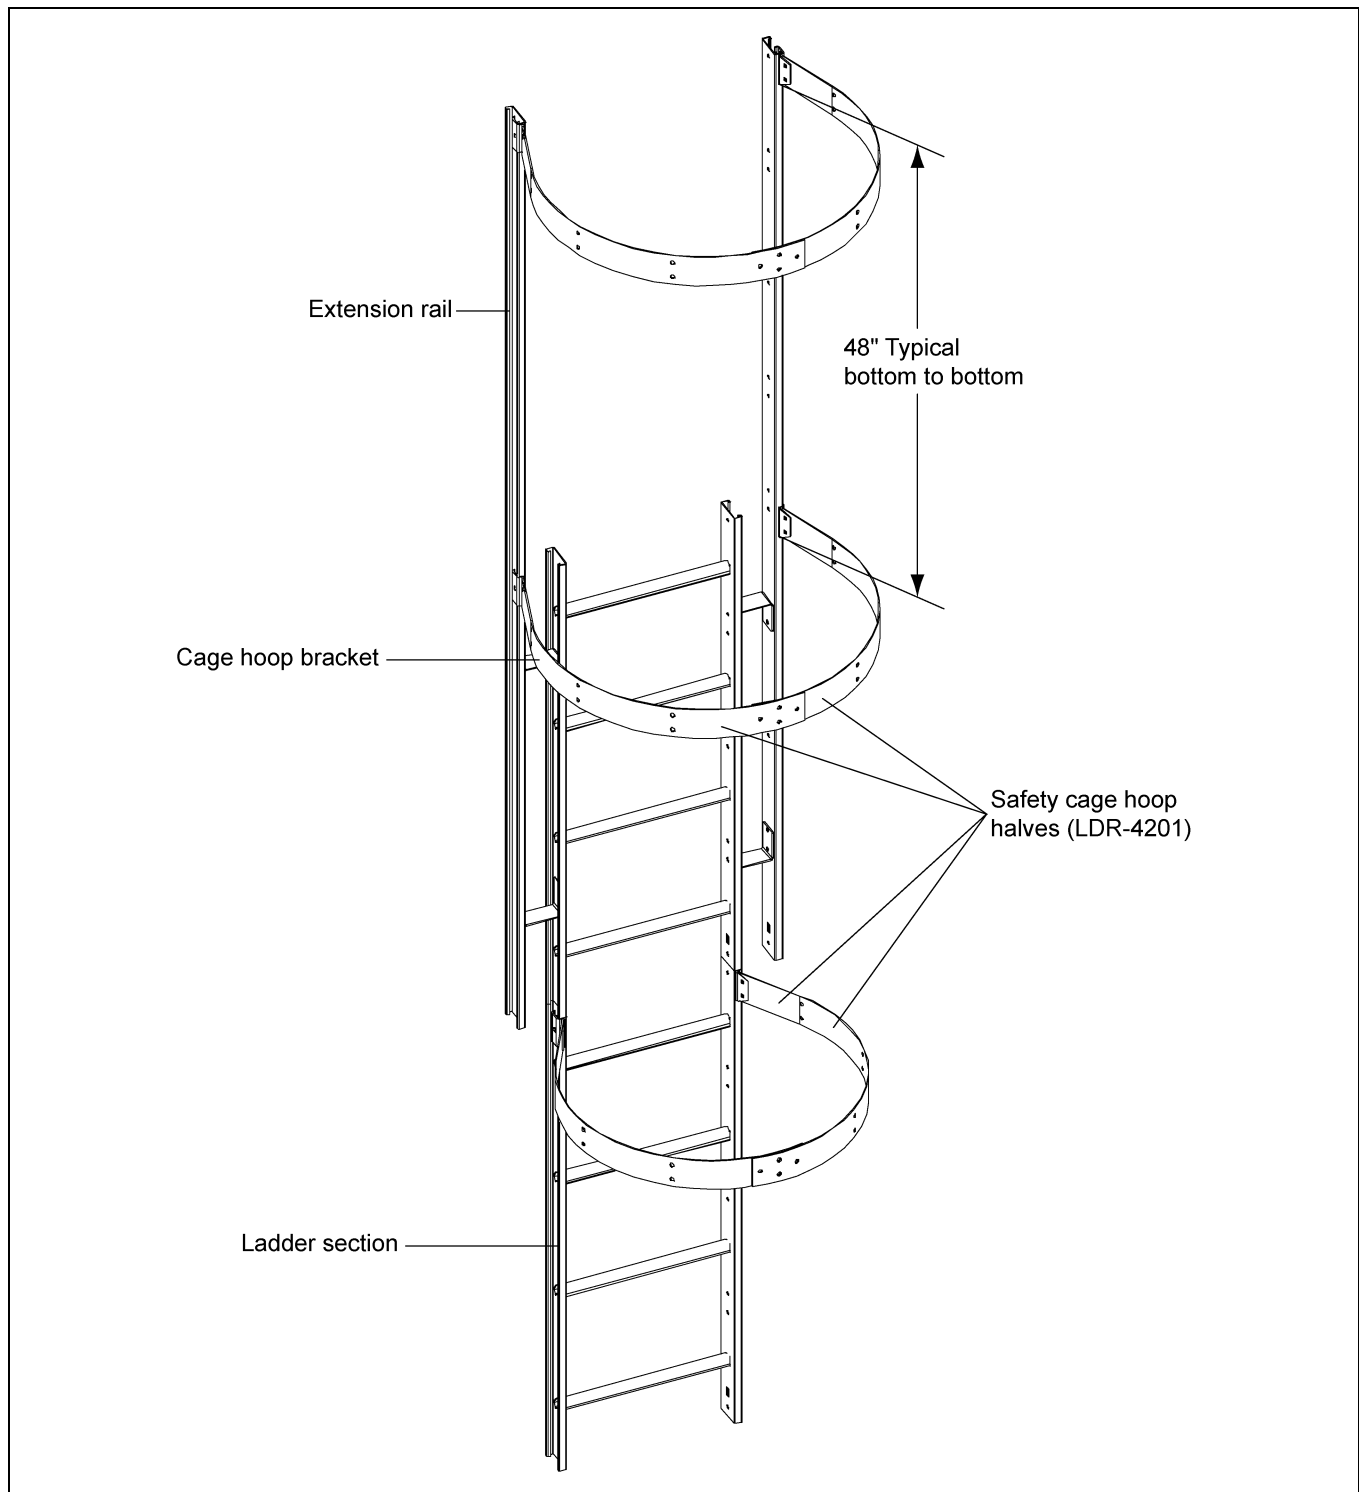

Figure 9C
To complete the safety cage hoop installation, some pre-assembly is required. Attach four (4) safety cage brackets to the extension rails and two (2) safety cage brackets to the second 4' ladder section as shown in Figure 9C. See cage hoop bracket detail on Page 44 for proper installation. Next, bolt each set of safety cage hoop halves together using  $5/16"$  x  $3/4"$  bolts with the head of the bolt to the inside of the safety cage. You may now bolt these assemblies to the safety cage brackets. Tighten bolts as you go.